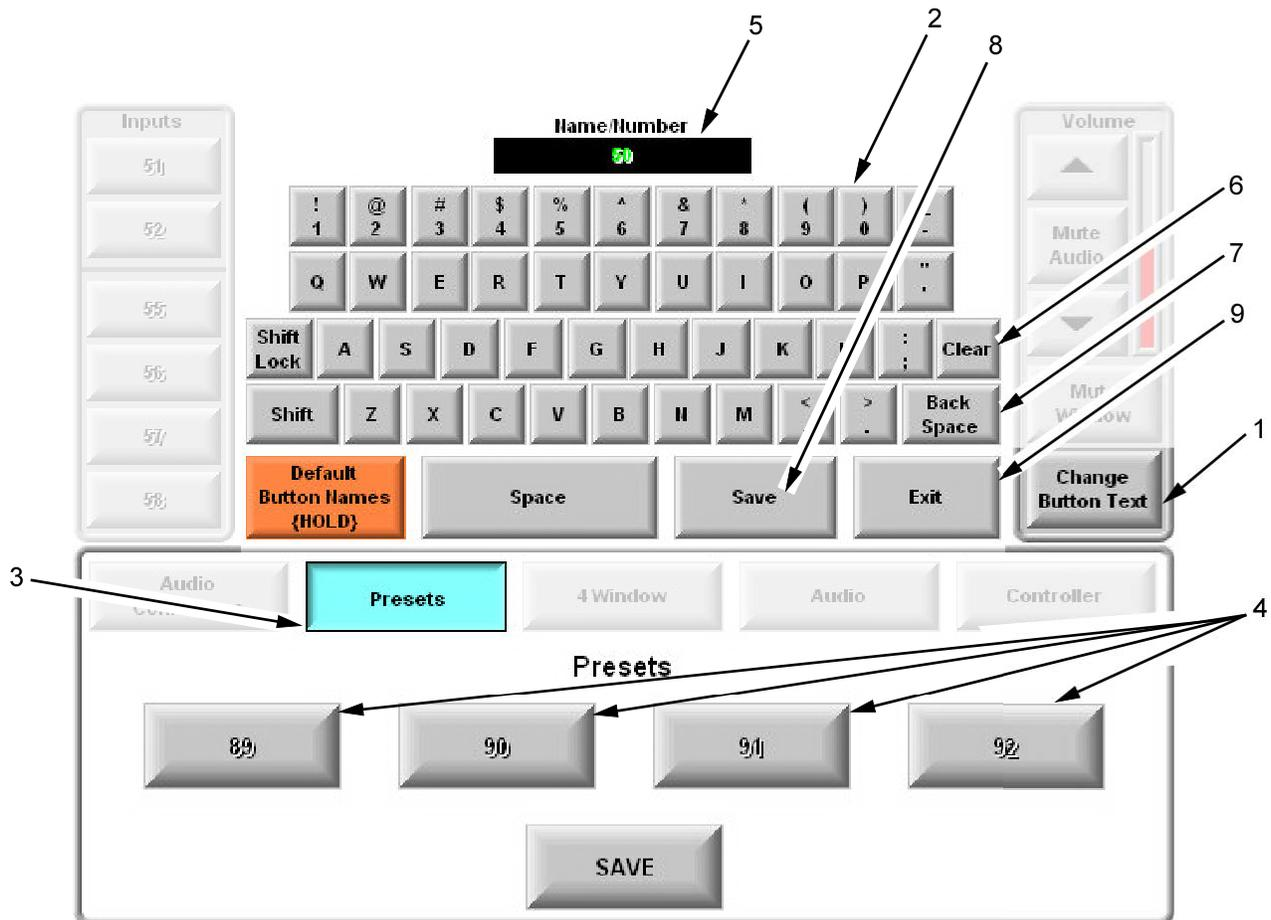

Figure 17. Change Preset Button Text.
1. Press the **Change Button Text** button (Figure 17, Item 1) to activate the onscreen keyboard (Figure 17, Item 2). The keyboard will be displayed in the center top of the screen.
2. Press the Presets Button (Figure 17, Item 3) to access the preset page.
3. Press the Preset button (Figure 17, Item 4) that is to be changed. The current label on the selected button will be displayed in the text box (Figure 17, Item 5) of the onscreen keyboard.
4. Press the Clear button (Figure 17, Item 6) to erase the text or Select the Back Space button (Figure 17, Item 7) to erase one character at a time.
6. Press the Save button (Figure 17, Item 8) to save the new label.
9. Select the Exit button (Figure 17, Item 9) to shut down the onscreen keyboard.